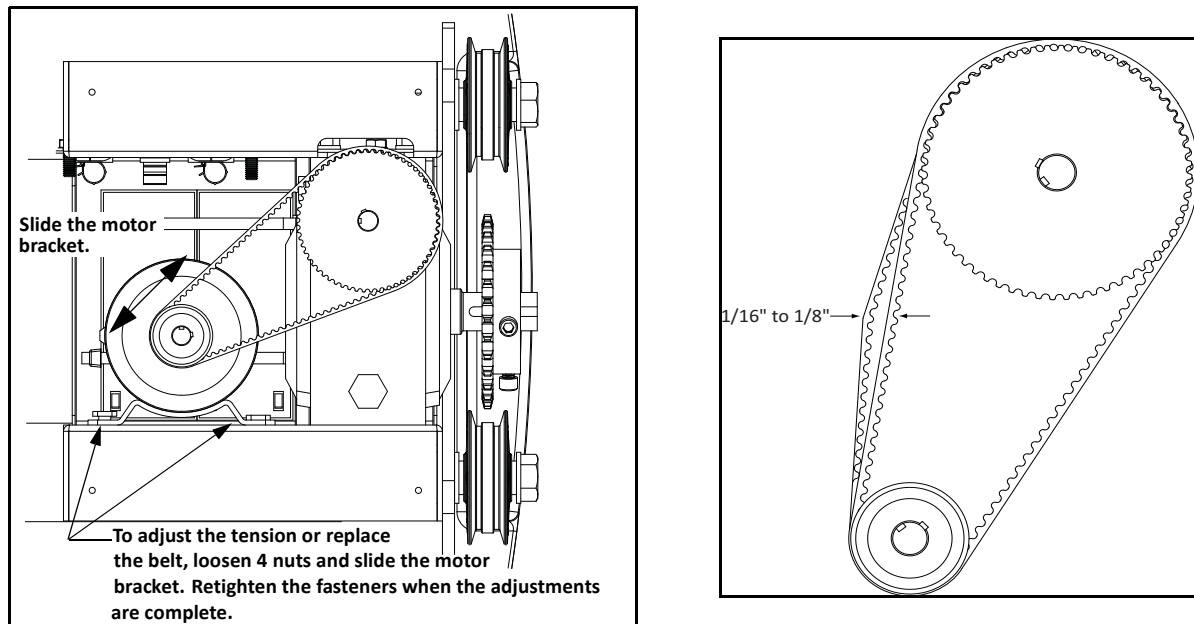

Figure 6-17.
4. With your finger, apply light outward pressure to the drive belt. If it is properly tensioned, it should only move about 1/16 to 1/8-inch (1.6 to 3.2cm). See Figure 6-17.